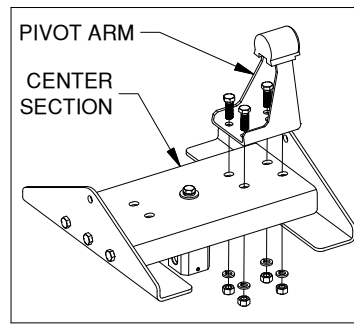
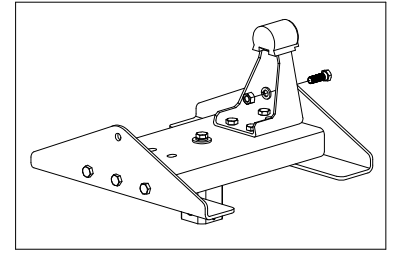

FIGURE A3: View of center section and pivot arm.
FIGURE A4: View of center section and pivot arm.
2. With the remaining ten 1/2" cap screws, 1/2" split lock washers and, 1/2" nuts, attach the pivot arms to the base. Start by passing four cap screws through the top of a pivot arm down through the base and hand tighten with split lock washers and nuts as shown in figure A3. Next, pass a single 1/2" cap screw through the side of the pivot arm and hand tighten with a split lock washer and nut as shown in figure A4. Repeat these steps for the pivot arm on the other side of the center section. Torque each bolt to 80 ft-lbs.